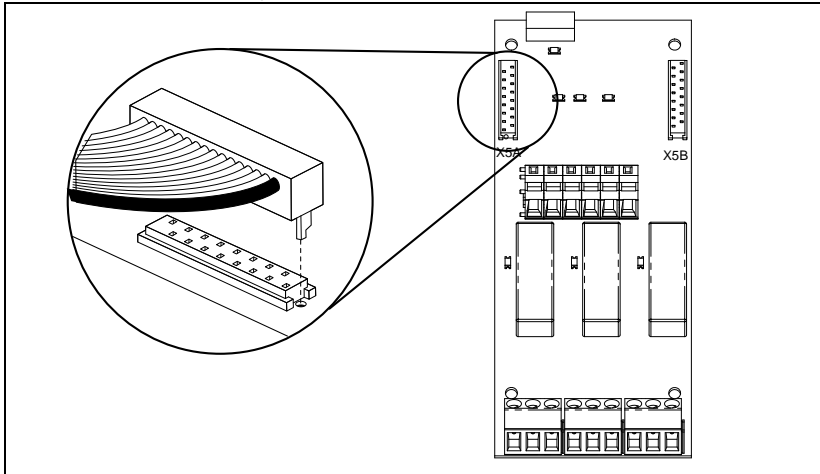

Fig. 14 Connect the flat cable to X5A connector on the option board.
1. Connect the short 16-pole flat cable (32 mm) to the X5A connector on the option board as in Fig. 14.